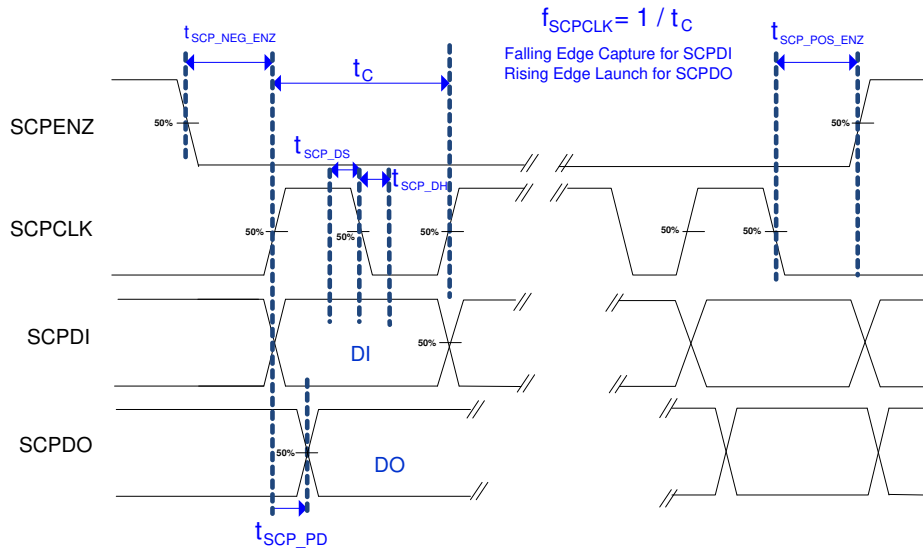

Figure 6-2. SCP Timing Requirements
- (6) Low-speed interface is LPSDR and adheres to the Electrical Characteristics and AC/DC Operating Conditions table in JEDEC Standard No. 209B, "Low-Power Double Data Rate (LPDDR)" JESD209B. Tester Conditions for VIH and VIL.
- (7) PWRDNZ input pin resets the SCP and disables the LVDS receivers. PWRDNZ input pin overrides SCPENZ input pin and tristates the SCPDO output pin.
- (8) The SCP clock is a gated clock. Duty cycle must be 50% ± 10%. SCP parameter is related to the frequency of DCLK.
- (9) See Figure 6-2.
- (10) CP internal oscillator is specified to operate all SCP registers. For all SCP operations, DCLK is required.